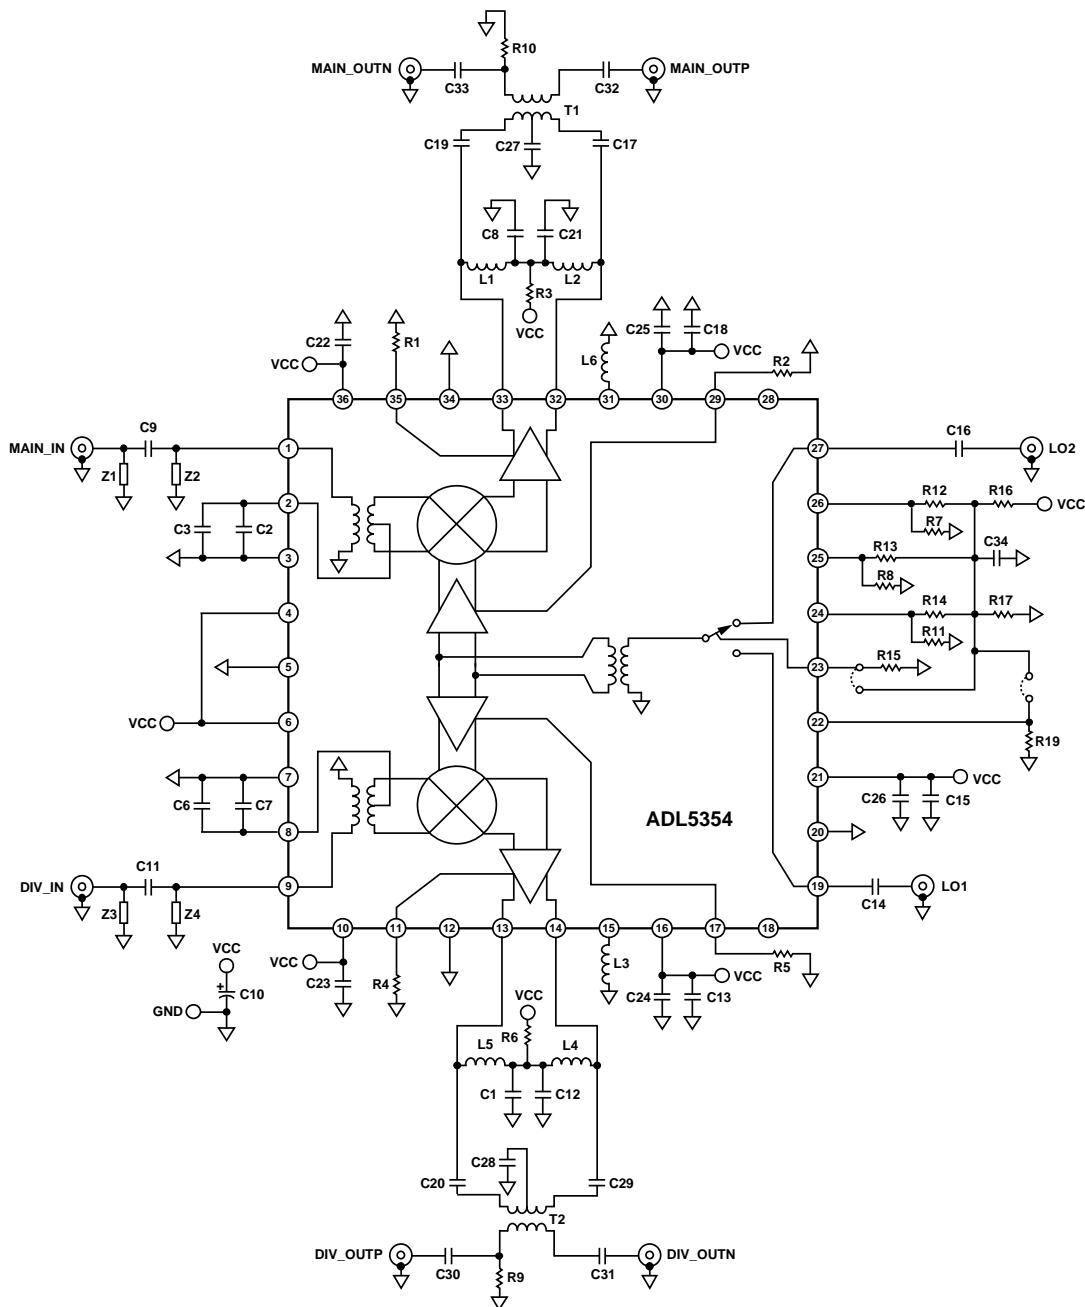

Figure 52. Typical Application Circuit
The ADL5354 mixer is designed to downconvert radio frequencies (RF) primarily between 2200 MHz and 2700 MHz to lower intermediate frequencies (IF) between 30 MHz and 450 MHz. Figure 52 depicts the basic connections of the mixer. It is recommended to ac couple the RF and LO input ports to prevent nonzero dc voltages from damaging the RF balun or LO input circuit. The RFIN matching network consists of a series 1.5 pF capacitor and a shunt 4.3 nH inductor to provide the optimized RF input return loss for the desired frequency band.
need for a transformer. This results in a voltage conversion gain that is approximately 6 dB higher than the power conversion gain, as shown in Table 3. When a $50\ \Omega$ output impedance is needed, use a 4:1 impedance transformer, as shown in Figure 52.